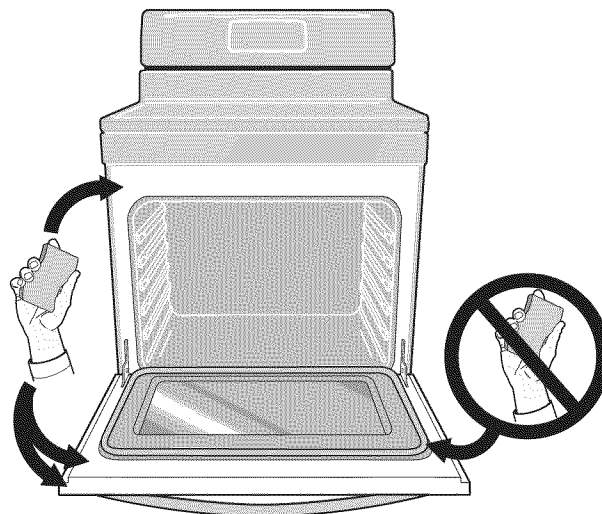

Figure 32: Areas to clean and to avoid
- Do not use oven cleaners or oven protective coatings in or around any part of the oven interior. Clean any soil from the oven frame, the door liner outside the oven door gasket, and the small area at the front center of the oven bottom (See Figure 32). These areas heat sufficiently to burn soil on. Clean using soap and water prior to starting Self Clean.